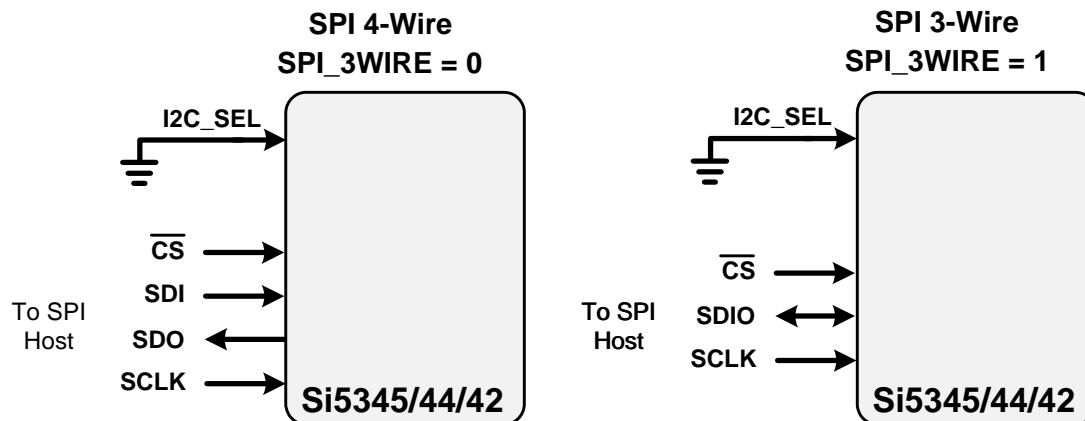

Figure 28. SPI Interface Connections
Data is transferred MSB first in 8-bit words as specified by the I²C specification. A write command consists of a 7-bit device (slave) address + a write bit, an 8-bit register address, and 8 bits of data as shown in Figure 28. A write burst operation is also shown where subsequent data words are written using to an auto-incremented address.
When in SPI mode, the serial interface operates in 4-wire or 3-wire depending on the state of the SPI_3WIRE configuration bit. The 4-wire interface consists of a clock input (SCLK), a chip select input (CS), serial data input (SDI), and serial data output (SDO). The 3-wire interface combines the SDI and SDO signals into a single bidirectional data pin (SDIO). Both 4-wire and 3-wire interface connections are shown in Figure 28.